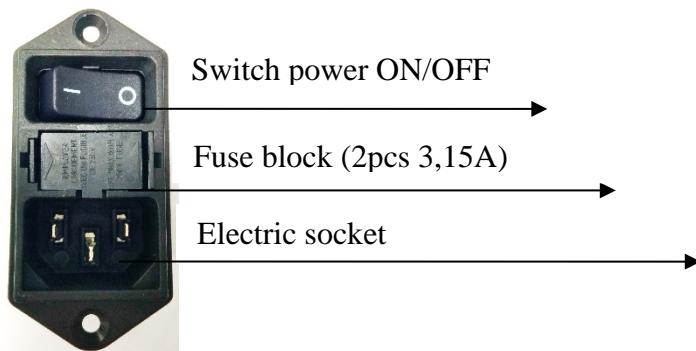

Fig. 5. Electrical connector with integrated switch and fuse block
1. Electric socket is located at the bottom of device body and used to connect a power cable (Fig. 5).
2. Power switch is located at the bottom of device body (Fig. 5).
3. Fuse block is located at the bottom of device body (Fig. 5).
2. Turn off power (set switch at bottom side of device body in “OFF” position, see Fig.5).